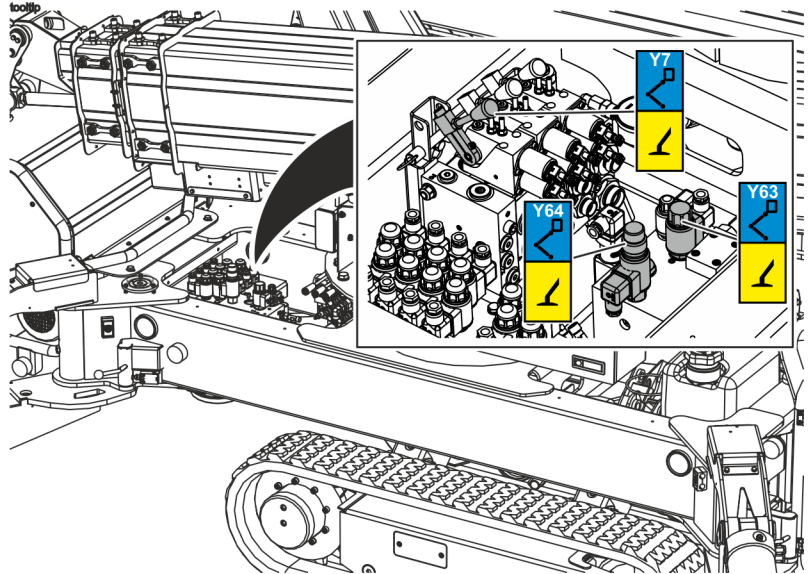

Fig. 164: Platform valves
2. ➔ Screw in the pressure relief valve (Fig. 164/Y64) completely.
3. ➔ Unscrew and remove the black cap (Fig. 164/Y63) from the release valve and completely screw out the valve actuator.